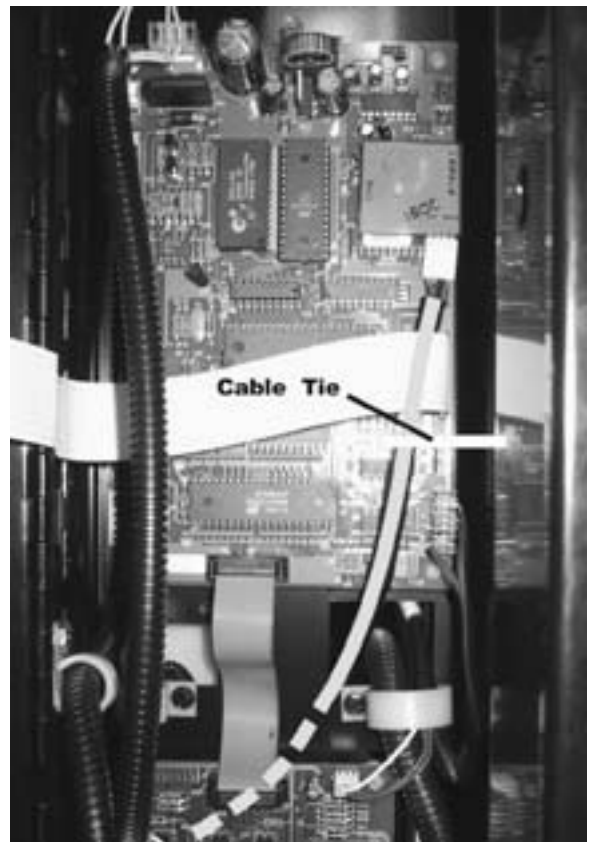

Figure 5
4. Route the cable harness (See Figure 5):